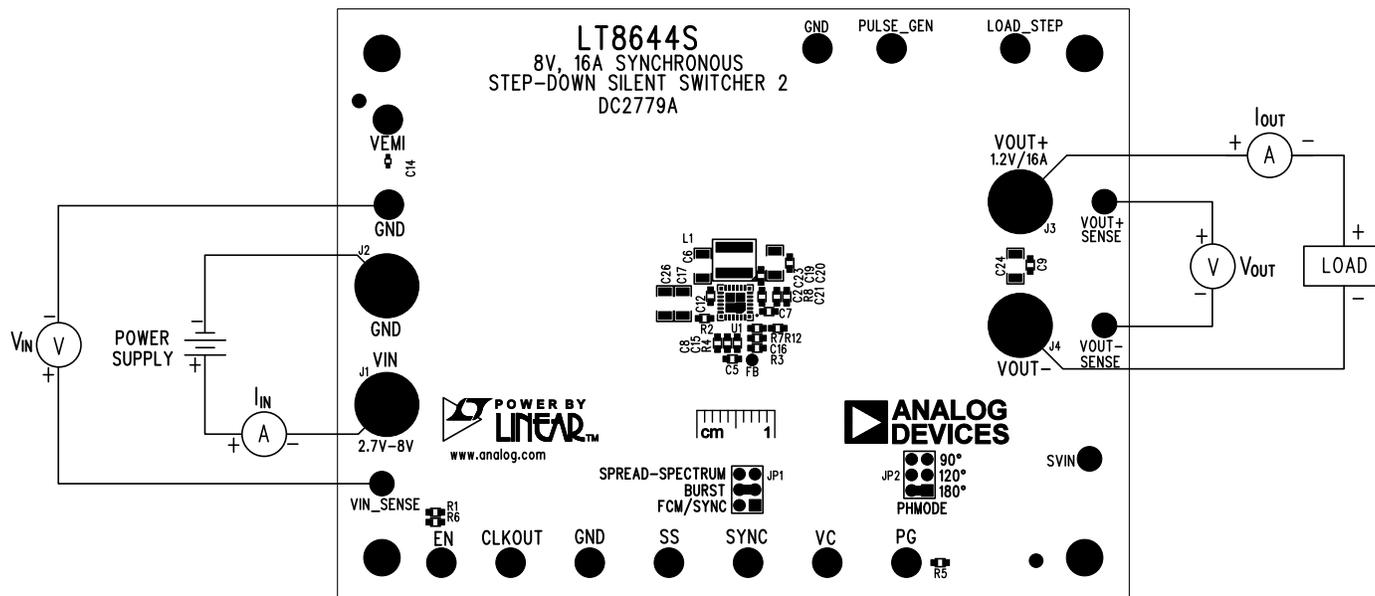
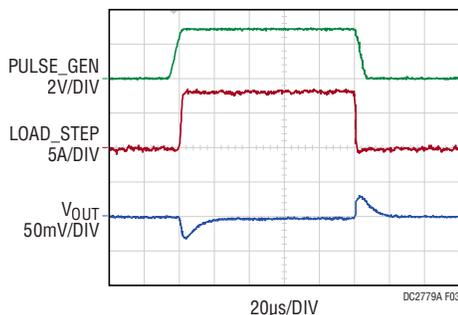

Figure 1. Proper Measurement Equipment Setup
Figure 3. LT8644S Demo Circuit DC2779A Transient Response ($V_{IN} = 5V$, 4A to 12A Load Step)
Demonstration circuit 2779A is easy to set up to evaluate the performance of the LT8644S. Refer to Figure 1 for proper measurement equipment setup and follow the procedure below:
9. To test the transient response, connect a signal generator to PULSE GEN terminal, and add a desired base load between V_{OUT+} and V_{OUT-} (LOAD shown on Figure 1). Adjust the signal generator with a 2ms period, 5% duty cycle and an amplitude from 1V to 2V to start. Measure the LOAD STEP voltage to observe the current ($I_{LOADSTEP} = V_{LOAD_STEP}/10m\Omega$). Adjust the amplitude of the pulse to provide the desired transient. Adjust the rising and falling edge of the pulse to provide the desired ramp rate. Figure 3 shows a load step from 4A to 12A. The 4A base load is added between V_{OUT+} and V_{OUT-} , while the 8A step load is controlled by the signal generator at PULSE_GEN and measured at LOAD_STEP with 0.01V/A ratio.